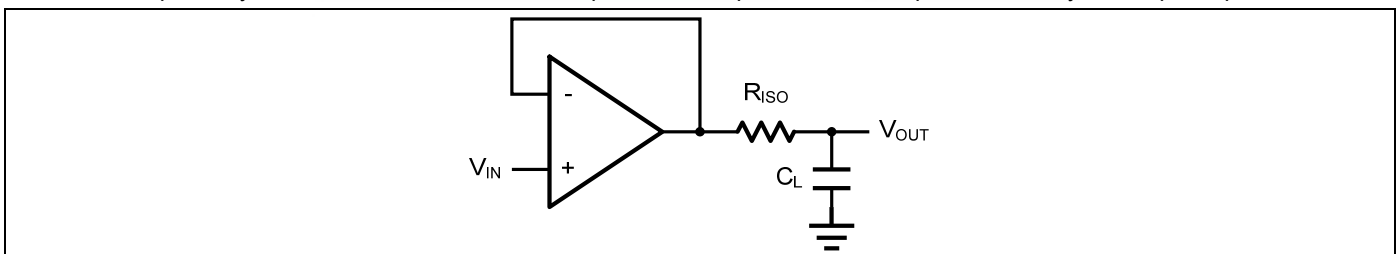
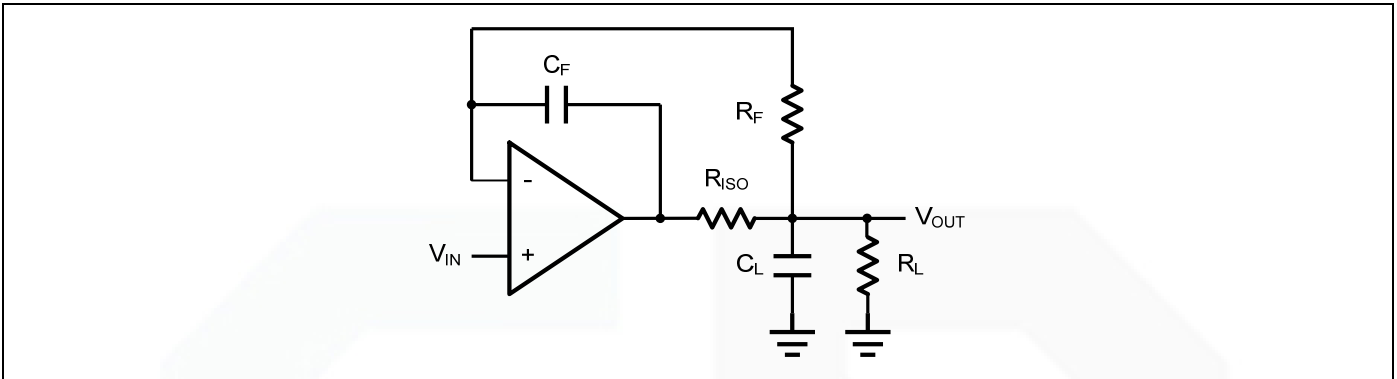

Figure 2. Indirectly Driving a Capacitive Load Using Isolation Resistor
Figure 3. Indirectly Driving a Capacitive Load with DC Accuracy
The GS804X family is optimized for bandwidth and speed, not for driving capacitive loads. Output capacitance will create a pole in the amplifier's feedback path, leading to excessive peaking and potential oscillation. If dealing with load capacitance is a requirement of the application, the two strategies to consider are (1) using a small resistor in series with the amplifier's output and the load capacitance and (2) reducing the bandwidth of the amplifier's feedback loop by increasing the overall noise gain. Figure 2. shows a unity gain follower using the series resistor strategy. The resistor isolates the output from the capacitance and, more importantly, creates a zero in the feedback path that compensates for the pole created by the output capacitance.
The circuit in Figure 3 is an improvement to the one in Figure 2. R_F provides the DC accuracy by feed-forward the V_{IN} to R_L . C_F and R_{ISO} serve to counteract the loss of phase margin by feeding the high frequency component of the output signal back to the amplifier's inverting input, thereby preserving the phase margin in the overall feedback loop. Capacitive drive can be increased by increasing the value of C_F . This in turn will slow down the pulse response.